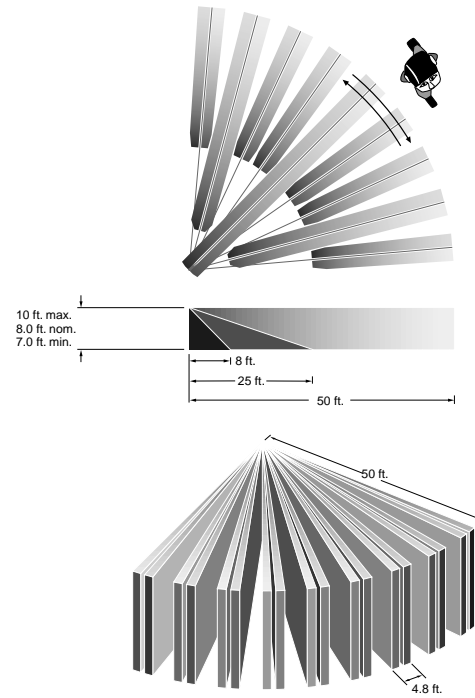

Figure 2
- Mount the sensor so the expected movement of an intruder is across the fields of the detection pattern. See Figure 2.